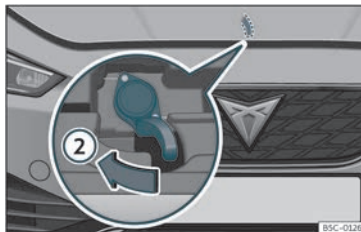

Fig. 202 Lever under the bonnet.
- To lift the bonnet, press towards the left on the lever located under the bonnet, in the centre» **Fig. 202** ②. The arrester hooks are released.